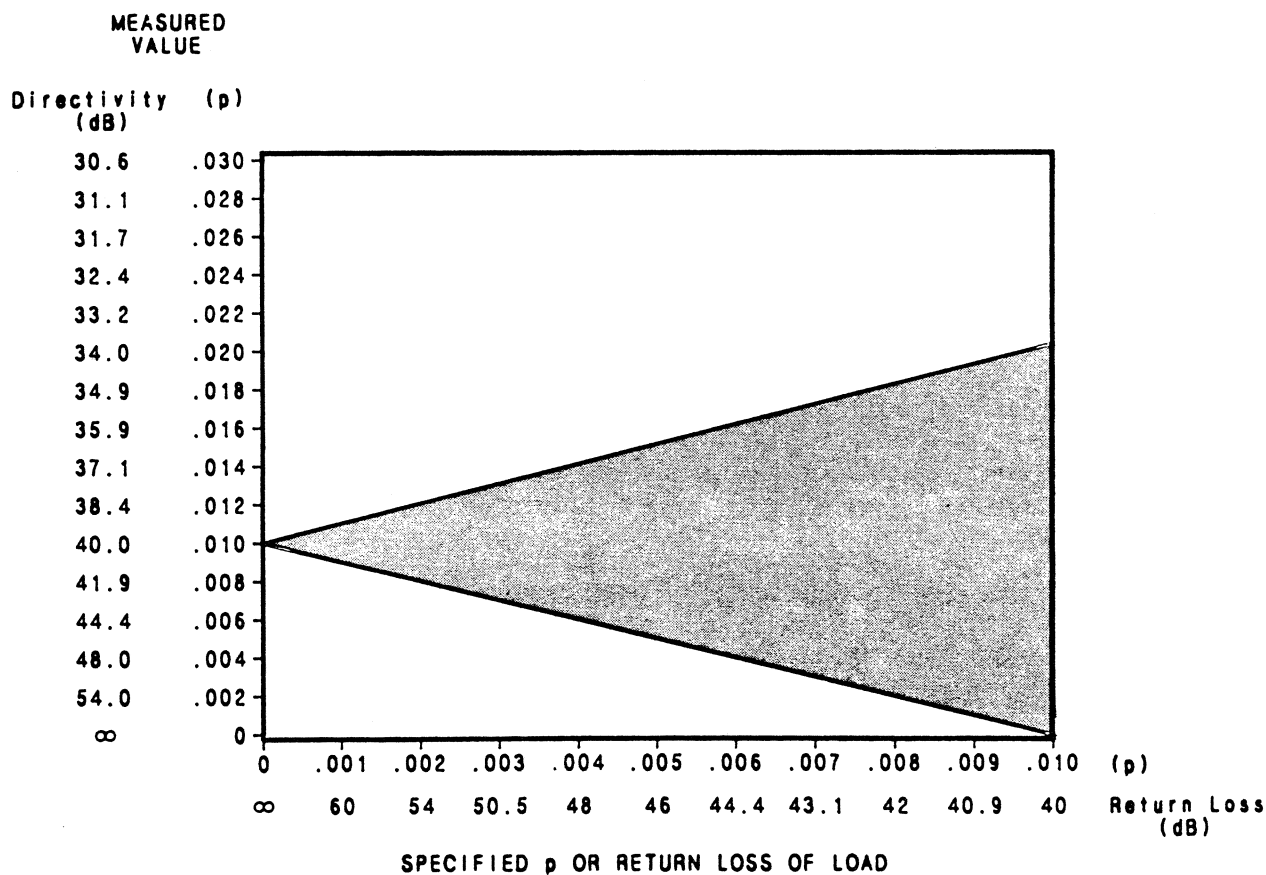

Figure 4-b. Measurement Uncertainty from 0.01 to 20 GHz
6. Refer to Figure 4-b. The chart shows the measurement uncertainty range as a shaded area. This is relative to the specified directivity of the bridge (40 dB). To determine measurement uncertainty, locate the reflection coefficient ( $\rho$ ) or return loss of the fixed load on the horizontal axis (the HP 909D's  $\rho$  is 0.01). Move up from that point to the shaded error limit window. The actual directivity could be anywhere within the error limit lines (read maximum and minimum possible values on the vertical axis). For the HP 909D option 040, move up from the 0.010 value on the horizontal axis, actual directivity could be anywhere from 34 db to infinity (read on the vertical axis). Record the uncertainty in the test record.
Any measured directivity **below** the shaded area on Figure 4-b ensures conformance to specification. A measured directivity **anywhere within** the shaded area indicates a 90% probability that the product meets specified directivity. This is based on factory observations.